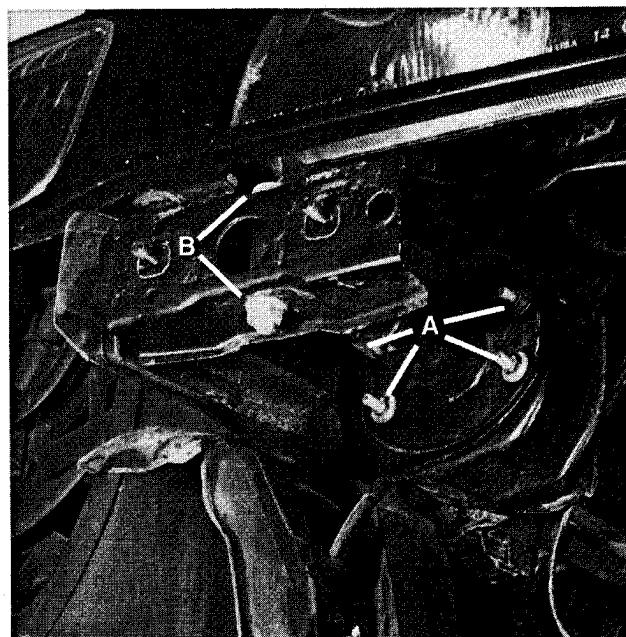

Fig. 9. Front bumper impact absorber mounting nuts (A) and bumper bracket hardware (B).
- Remove bumper bracket bolt. Refer to Fig. 9.
The bumper mounting bracket and impact absorber mounting hardware are accessible with the front bumper removed, as described above. See Fig. 9.